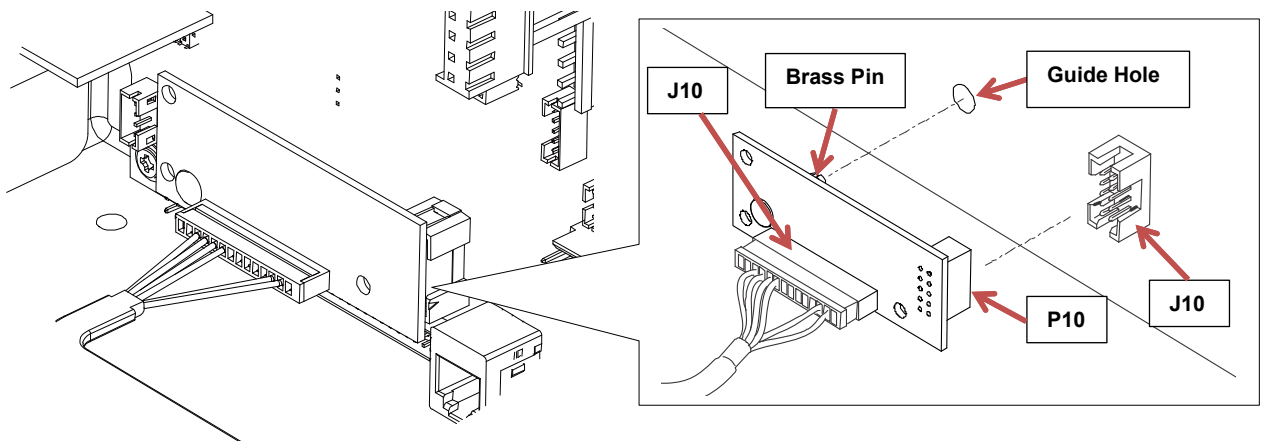

Figure 5 Installing ODV interface PCBA (T6)
2. Plug the connector end of the power/data cable into the J10 receptacle on the ODV Interface PCBA as shown in Figure 5.